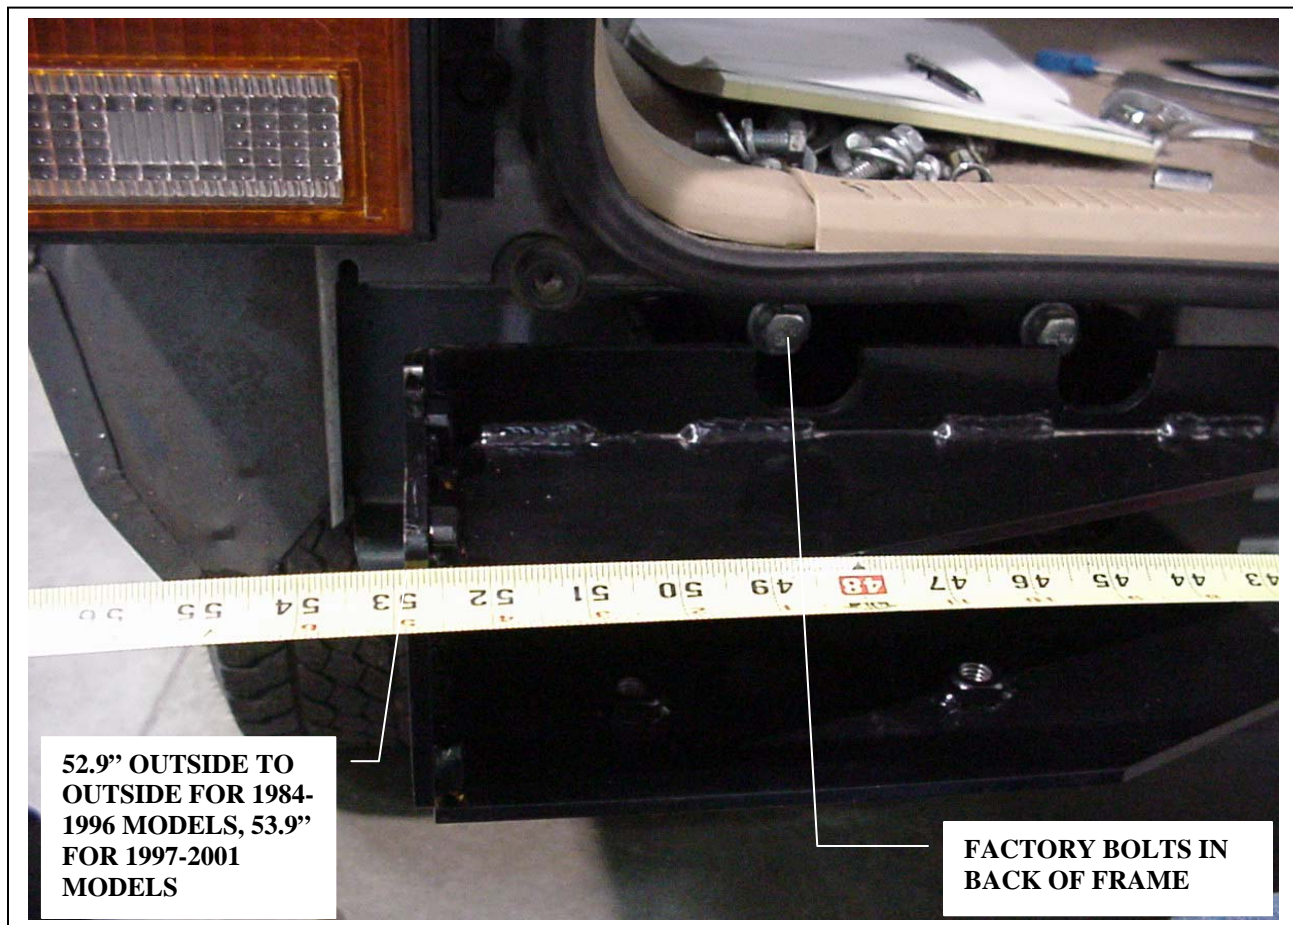

Figure 5, Bracket Adjustment
- The factory holes in the back of the frame have been found to vary greatly in location. For the majority all four holes on each side will line up. On some older vehicles it has been found that one on each side may not line up. Adjust the brackets so they are level with the vehicle. If one of the holes does not line up, do not force the bracket to install the bolt. Leave the bolt out. When all of the frame bolts are re-installed, measure across the bumper brackets. The measurement should be **52.9 inches for 1984-1996 models** and **53.9" for 1997-2001 models**. The bumper brackets have slotted holes to allow for side-to-side movement. Adjust the bumper brackets and torque all of the bolts on the back and bottom of the frame. **See Figure 5.**